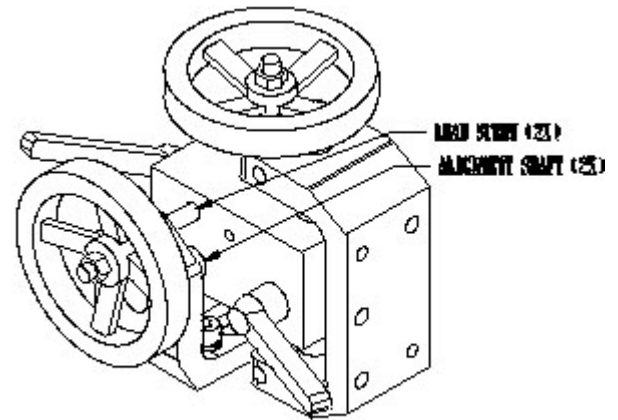

FIG. 8
The wiring diagram is shown in FIG. 8.
6. Wipe and relube with never-seez, the vertical and horizontal alignment shafts and lead screws, every six months. See FIG. 8.